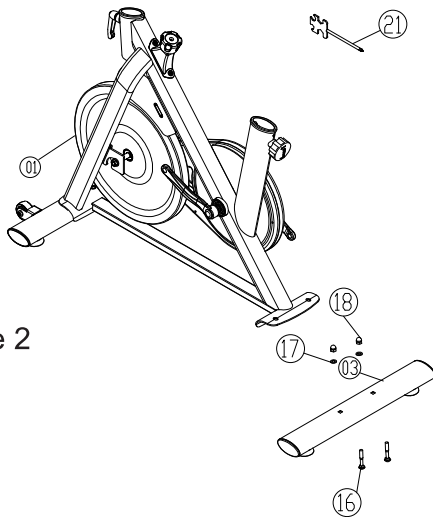

Figure 2
2. Secure the Main Frame Assembly (Part 01) to the Rear Foot Tube Assembly (Part 03) with two M8×55 carriage bolts (Part 16), two flat washers (Φ20×Φ8.5×1.5t, Part 17) and two high caps (Part 18), as shown in Figure 2.